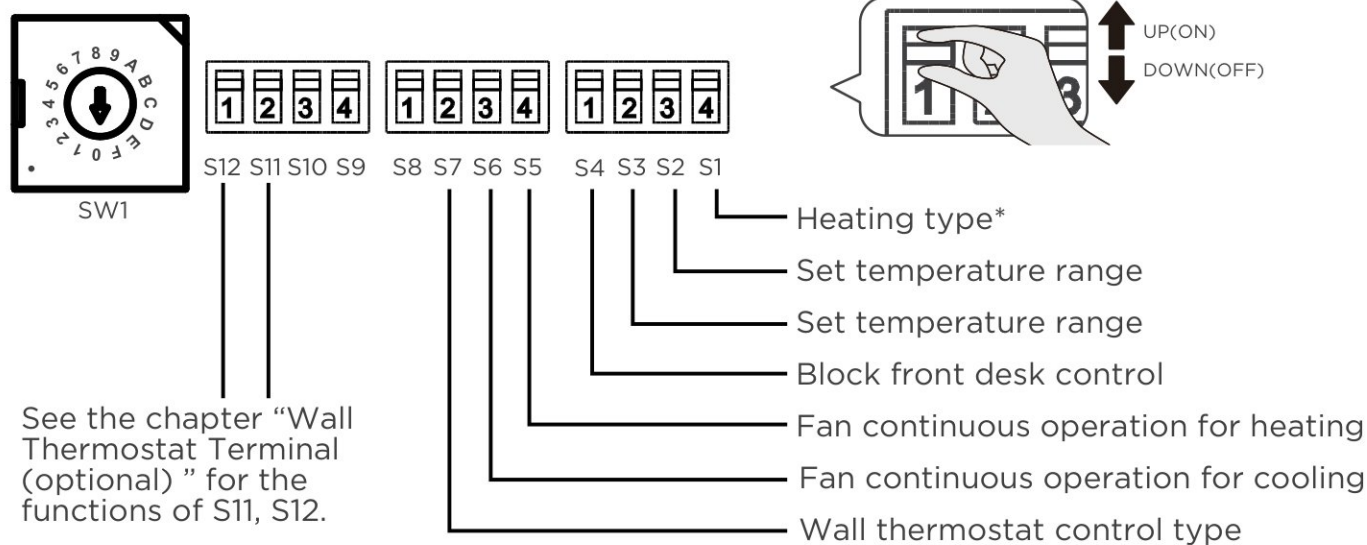

Fig. 11
- See Table 1 (on the next page) and Fig. 11 for DIP Switch configurations and functions of each DIP switch position.